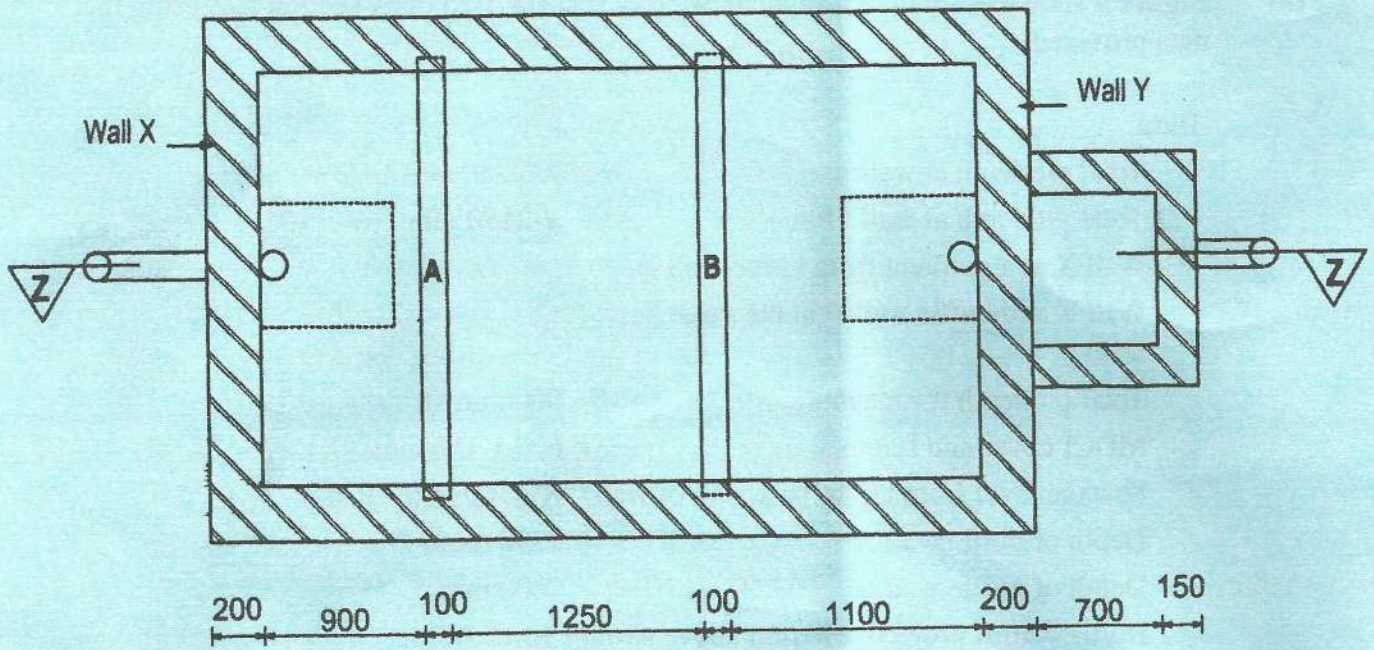

FIGURE 4
- (b) **Figure 4** shows the plan of a septic tank. To a scale of 1:25 draw section Z-Z using the data provided.